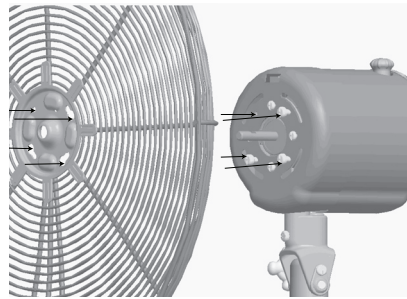

FIGURE 8
19. Loosen the three remaining Grille Mounting Screws. Align the three keyhole slots in the Back Grille with the three remaining Grille Mounting Screws in the Motor Face, and place the Back Grille onto the Motor Face, ensuring that the Grille Mounting Screw washers are between the screw head and the Back Grille. See Figure 8.